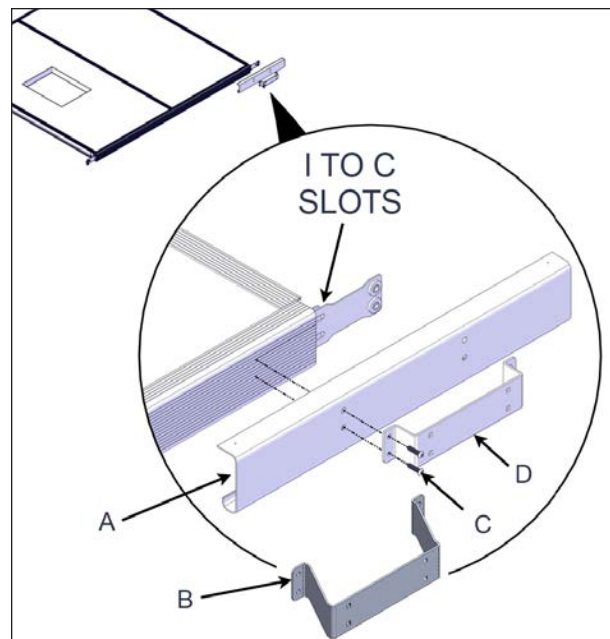

FIGURE 45: POST MOUNT BRACKET INSTALLATION
8. Refer to Figure 45 for this step. Align the holes of the support bracket (item A), the holes of the post mount bracket (item D), and the holes of the long C-channel by hand. Assemble them with two 1/4" x 1" socket head screws. Tighten to a torque value of 5 ft-lb.
For some spas, optional dual side brackets (item B, Figure 45) are needed to mount the cover to the posts. The installation of these brackets is made the same way as for the post mount brackets described in the previous step.